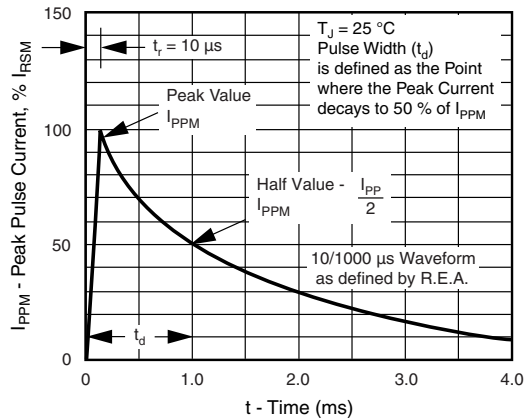
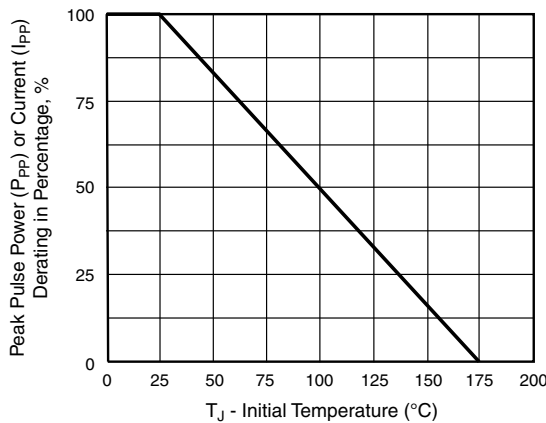

Fig. 3 - Pulse Waveform
Fig. 2 - Pulse Power or Current vs. Initial Junction Temperature
- (1) Pulse test: t_p ≤ 50 ms
- (2) Surge current waveform per fig. 3 and derate per fig. 2
- (3) All terms and symbols are consistent with ANSI/IEEE CA62.35
- (4) For bidirectional types with V_R 10 V and less the I_D limit is doubled